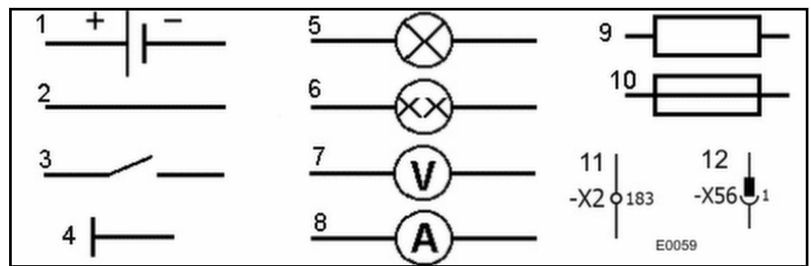

Fig. 58: For example: Circuit symbol
Different symbols are used to simplify the differentiation of terminal strips 11 ↪ Fig. 58 and plugs (12) in a wiring diagram.